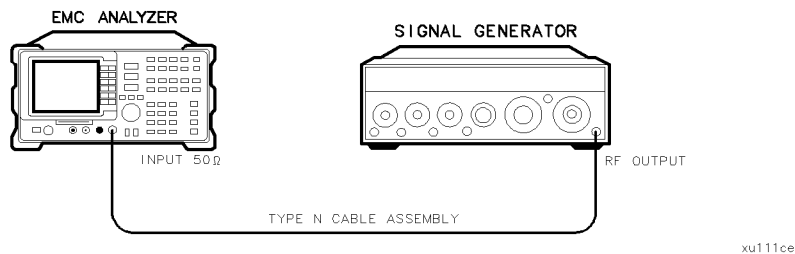

Figure 2-7. System Related Sidebands Test Setup
2. Connect the equipment as shown in Figure 2-7.